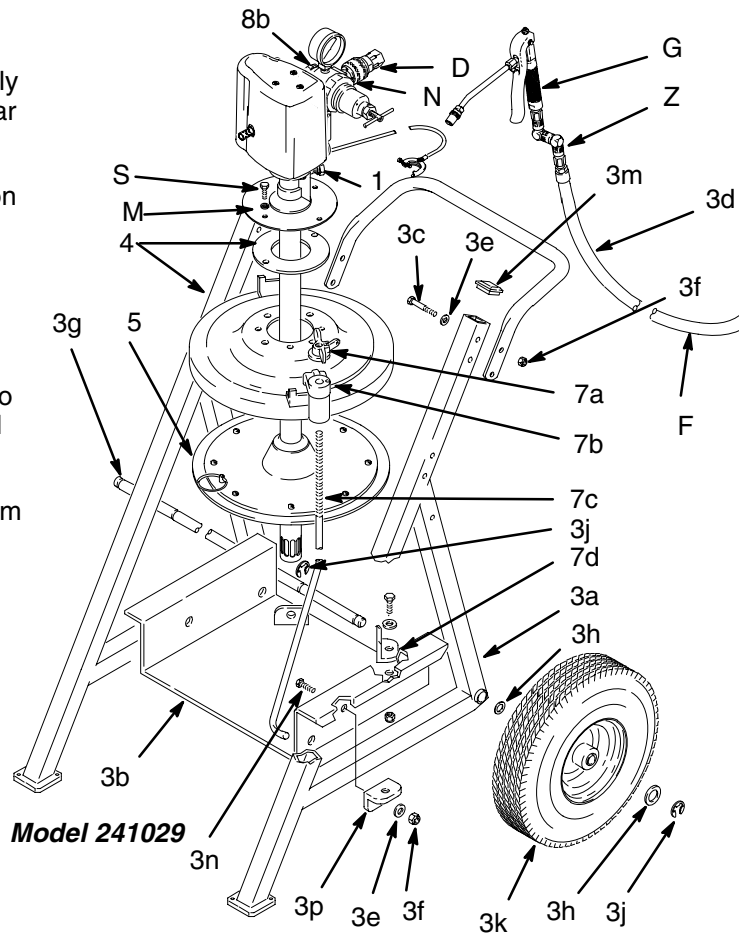

Fig. 8
1. Assemble the cart (3) as shown in Fig. 8. Use only 2 of the 4 brackets (7d) supplied. Install in the rear positions, of the drum shelf (3b), as shown.
3. Place the follow plate (5) on the surface of the grease (See page 8).
4. Insert the pump (1) through the cover (4), and slide the cover up far enough to allow the pump to easily pass through the follow plate grommet and into the grease.
5. Using items 7a to 7d, secure the cover to the drum and the drum to the cart. Attach the pump mounting plate (M) to the cover using the screws (S) and washers supplied with the cover.
6. Connect the hose (F) to the pump fluid outlet, and assemble the z-swivel (Z) and gun (G) to the hose.
7. Connect the nipple (N) to the pump air inlet or air regulator (8b) inlet, whichever is applicable. Connect the quick-disconnect coupler (D) to the air supply hose.